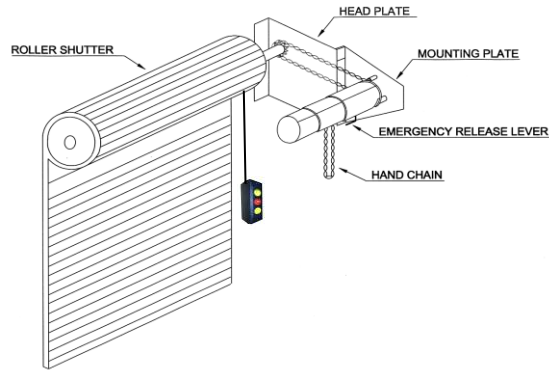

FIG.1
- 4) Sprocket & chain must align perfectly when observed from under the mounted door operator. (Fig 1)